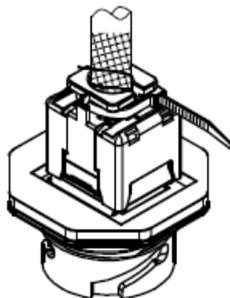

Fig. 7
8. Fit the cable tie to the shielded collar. (Fig.7)